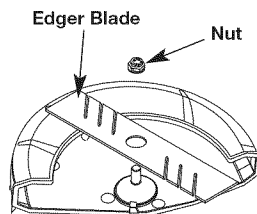

Fig. 17
- Install the new blade and nut (Fig. 17).
**NOTE:** Make sure the blade edges are facing the proper direction (Fig. 17). The unit will not function correctly if the edger blade is installed backward.